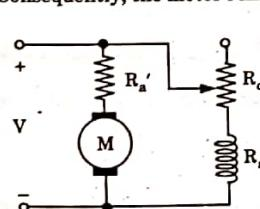

Fig. 3.7.1. Speed-control of a DC shunt motor by variation of field flux.
2. In the shunt motor, this is done by connecting a variable resistor  $R_c$  in series with the shunt field winding as shown in Fig. 3.7.1. The resistor  $R_c$  is shunt field regulator.